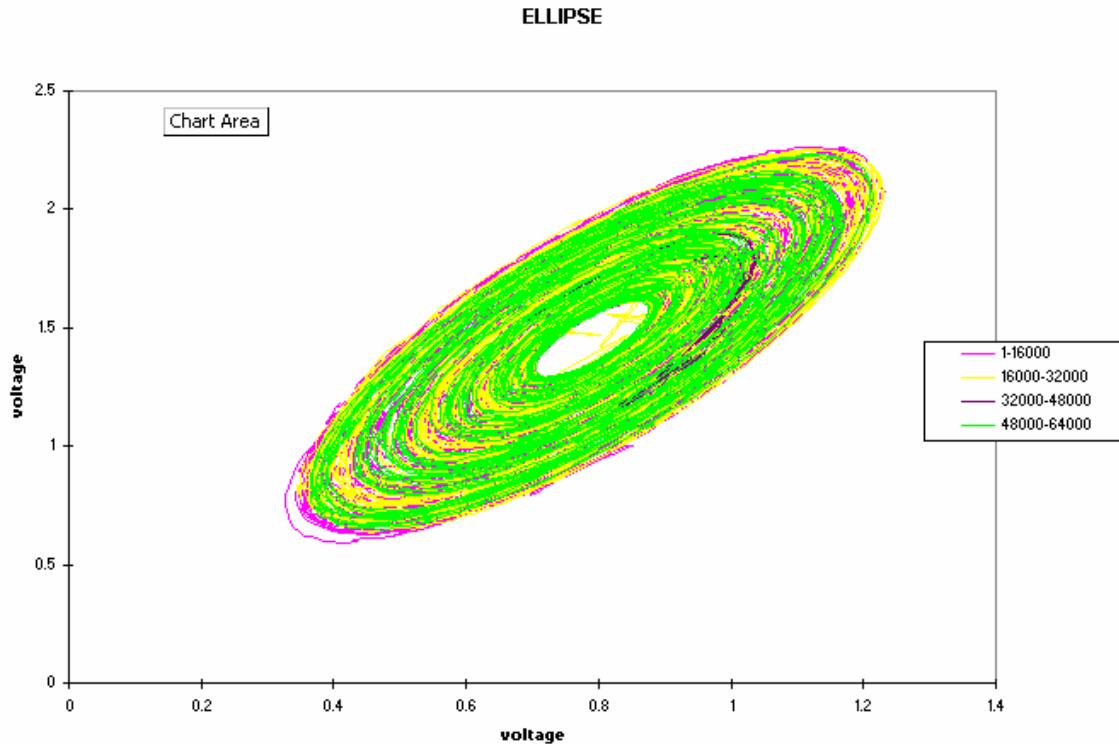

Figure 2.
- **Ellipse** (Figure 2) contains a plot of voltages from the photo detector, x and y components of the laser beam.